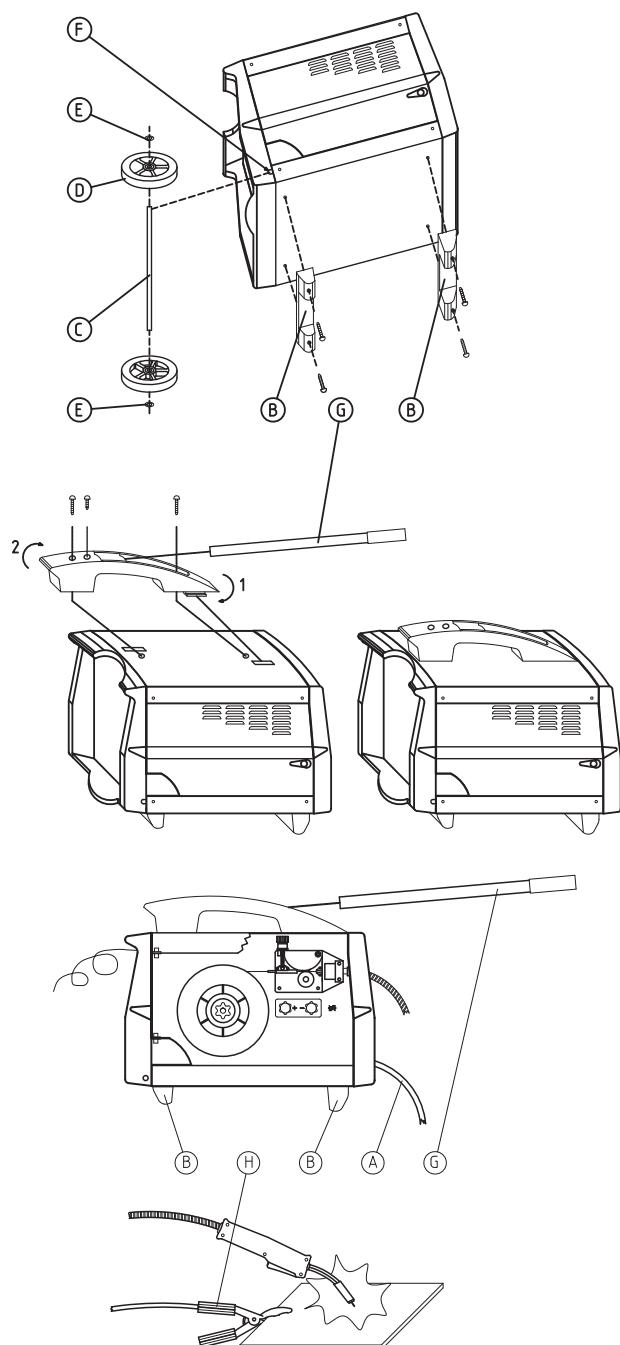

Fig. 1
- Lay the power source on one side and fix the two rubber feet (B) (front and back) to the base of the machine using the four screws of the kit. For models with wheels remove, using a tool, the film (F) that closes the axle's seat and then insert the axle (C) in the two holes and fix the wheels (D) on the two sides. Fasten the wheels in their position fixing slowly the washers (E) on the two sides of the axle. Bring the power source back to the upright position and insert the handle extension (G) in the front side of the handle fixing it with the screw of the kit (FIG.1).
- In order to assemble the plastic handle follow the instructions of figure 1.